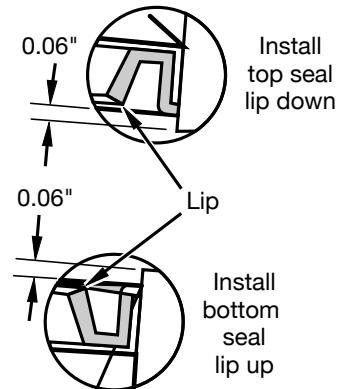

Figure 3
8. Install new grease seal using the proper installation tool. When installing the seal, be sure the lip is pointing toward the center of the knuckle. See Figure 3 for seal position.